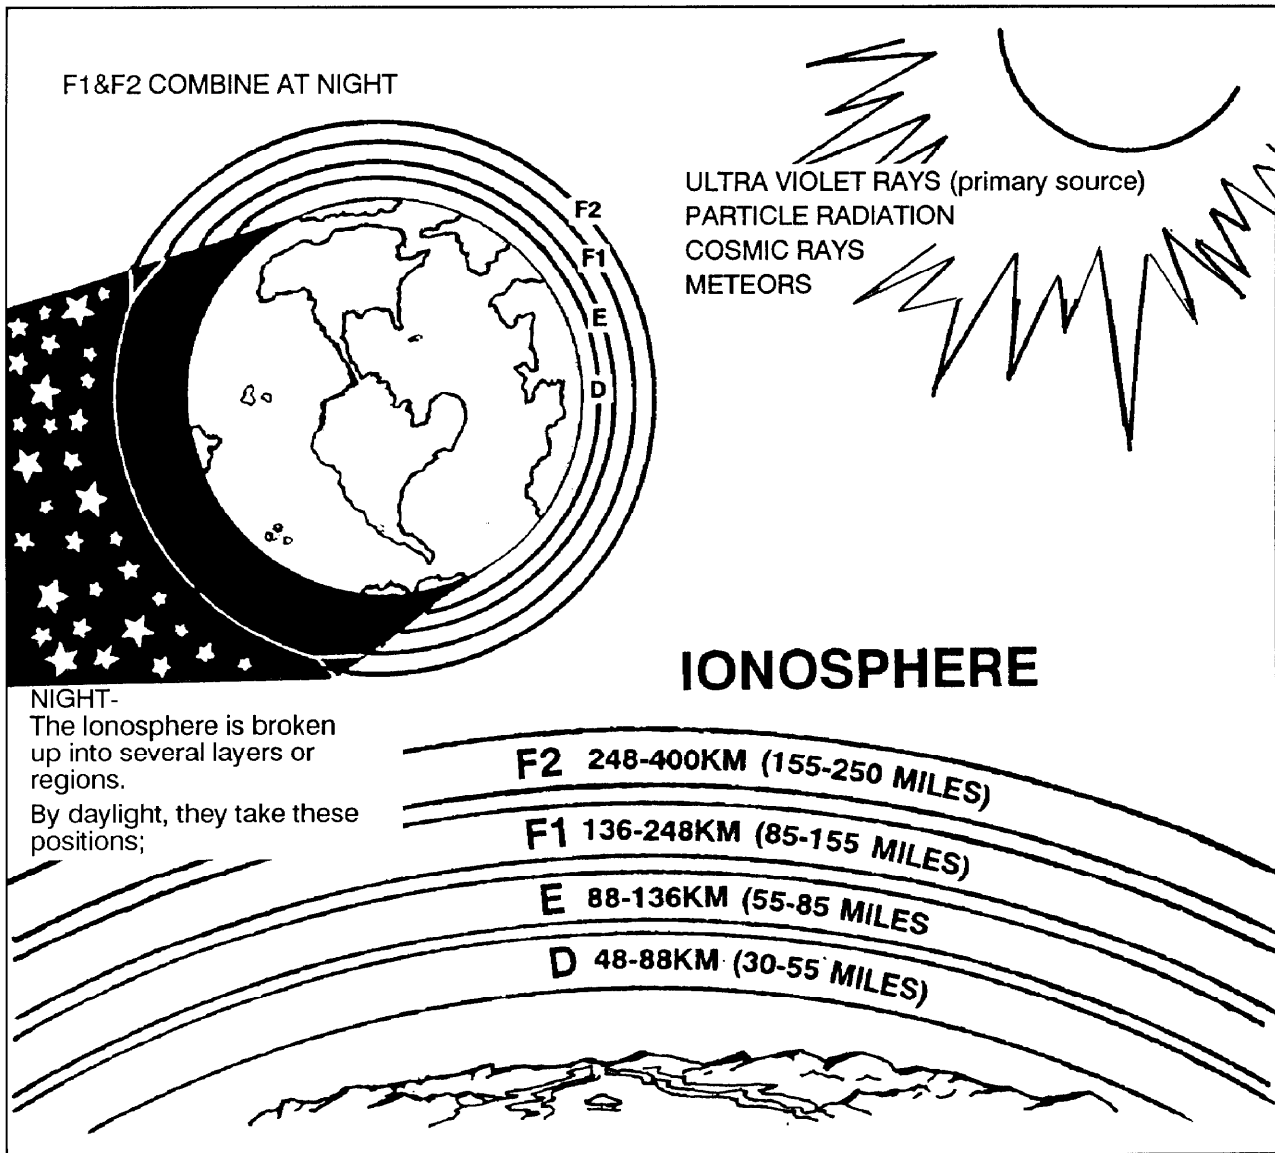

Figure D-3. Structure of the ionosphere.
(1) The ionosphere (Figure D-3) is an electrically charged (ionized) region of the atmosphere that extends from about 60 kilometers (37 miles) to 1,000 kilometers (620 miles) above the earth's surface. The ionization results from energy from the sun and causes radio signals to return to earth. Although the ionosphere exists up to 1,000 kilometers, the important area for HF communication is below 500 kilometers. This area is divided into four regions: D, E, F1, and F2.